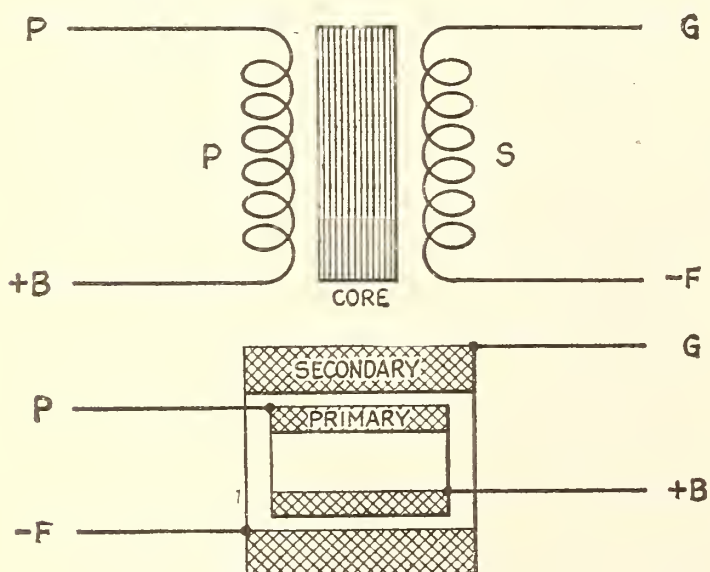

FIG. 3
*Audio Transformers:* Many times, when howling occurs, reversing the connections to the primaries of either one or both of the audio-frequency transformers will remedy the trouble. The drawing Fig. 3 shows the correct arrangement of transformer terminals and also the best plan of connecting the various leads from the transformer windings to the terminals.